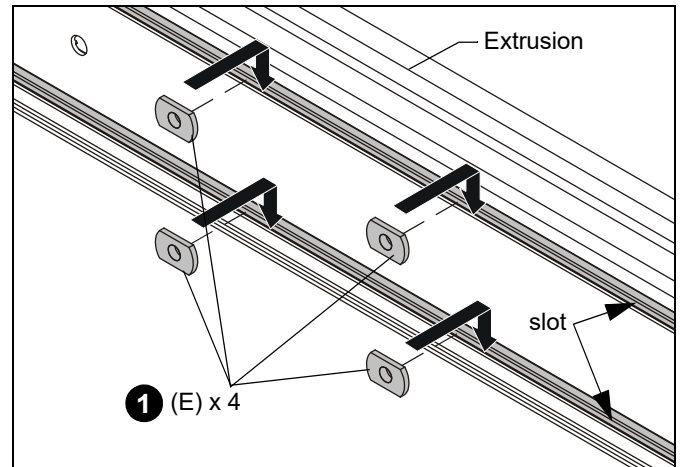

Figure 3
1. Insert four 1/4-20 weld nuts (E) into slot in mount extrusion. (See Figure 3)